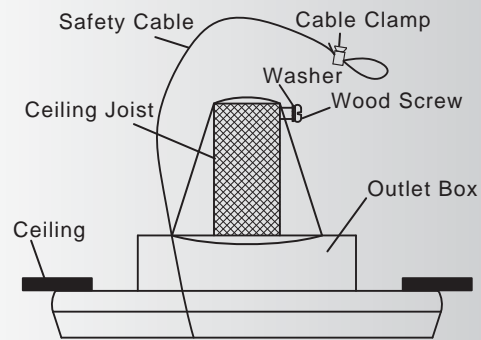

Fig. 11-1
Step 1. Attach the provided wood screw and washers to the ceiling joist next to the mounting bracket but do not tighten. See Figure 11-1